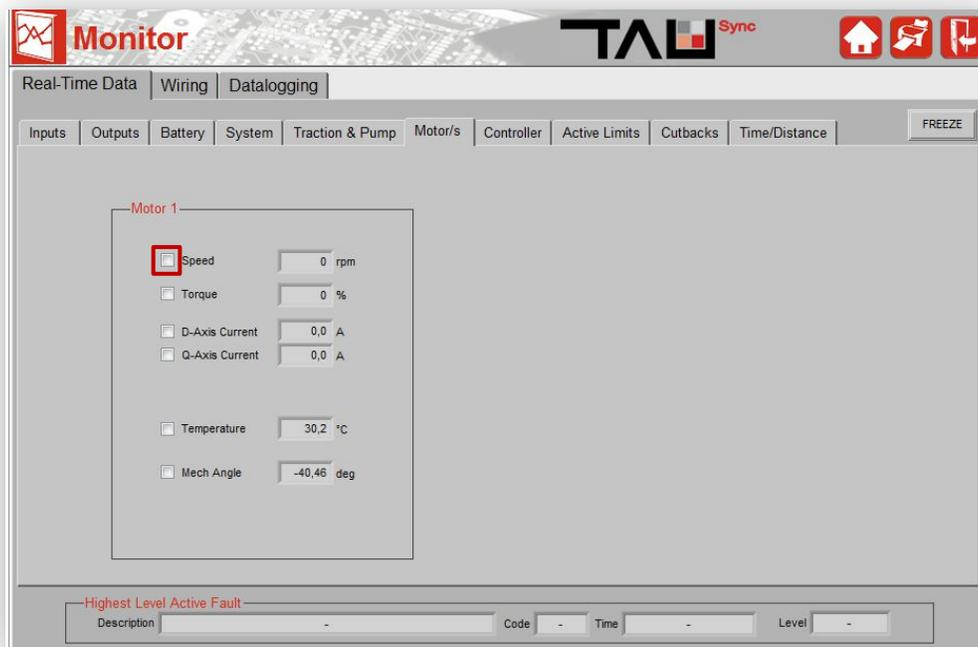

Figure 11 – Checkbox for Datalogging
1. On the TAU SmartView home screen, select **Monitor - Real-Time Data** - Select the Checkbox next to each parameters of interest. Toggle through multiple tabs and select Checkboxes as you go. A list of common troubleshooting parameters is provided in *Figure 11*.